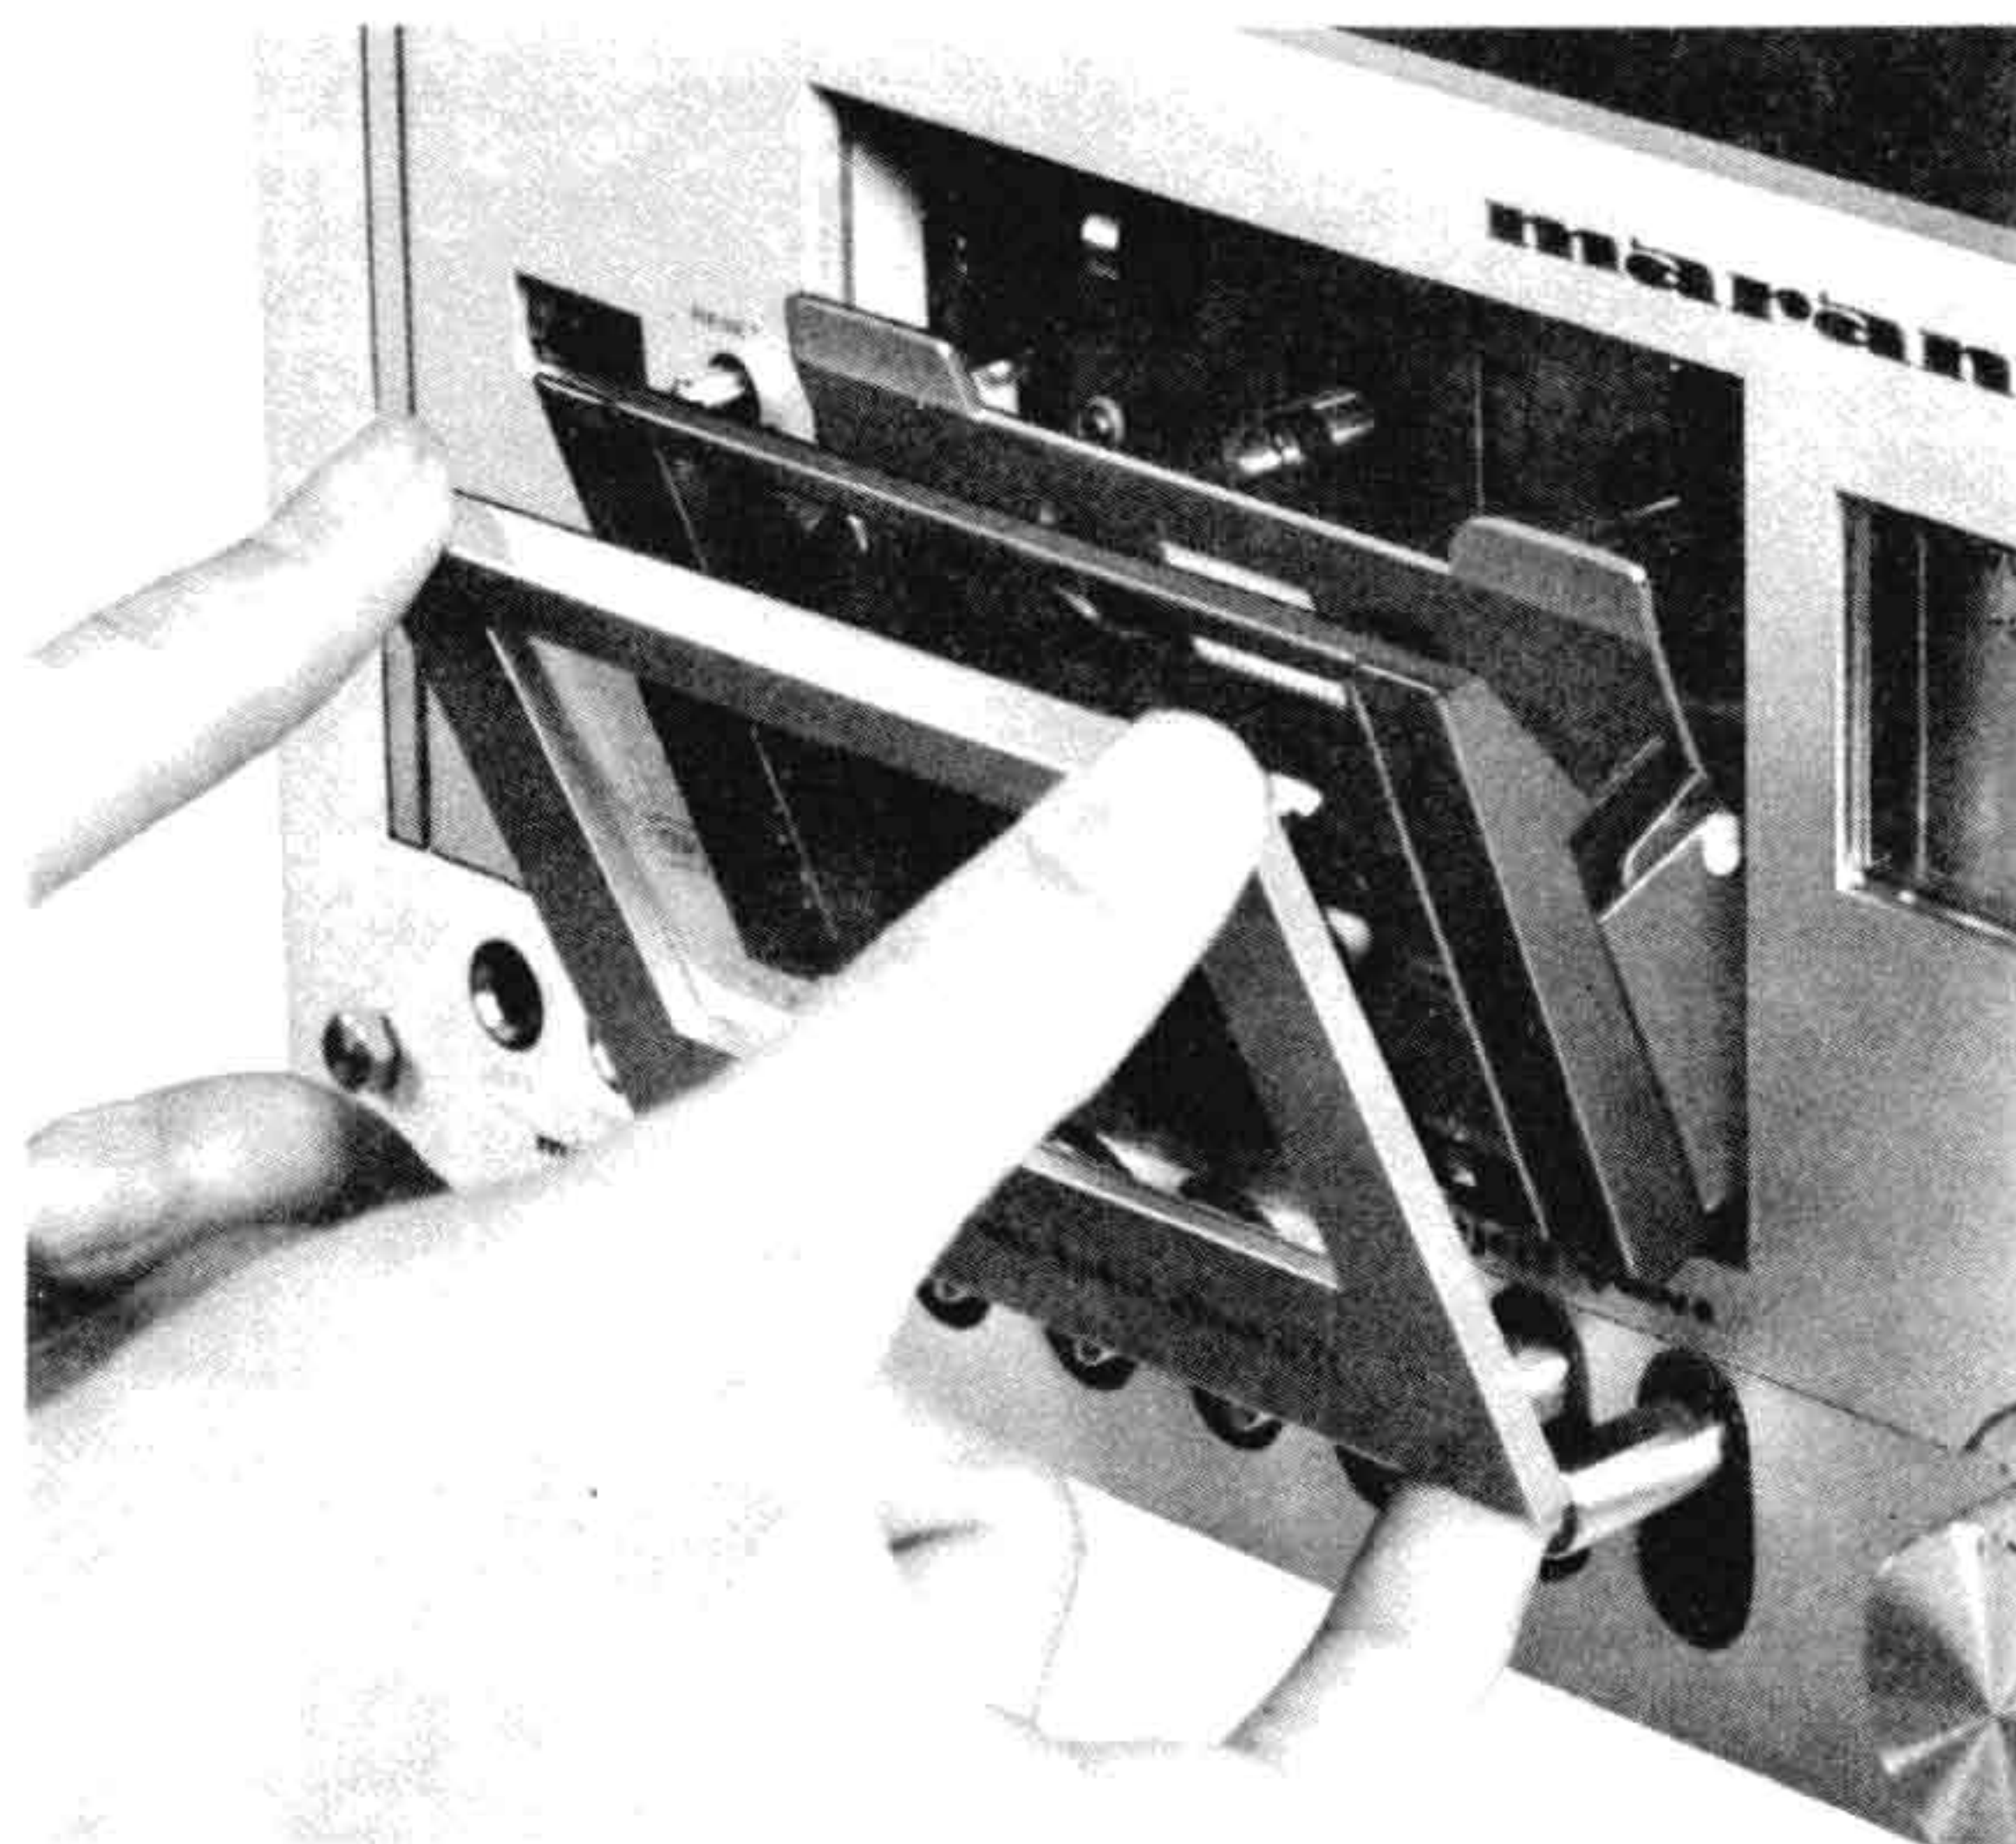

Figure 5. Removing the Lid
3. With the cassette holder still open, grasp the cassette lid by its four corners and gently lift up on the lid (see Figure 5). The lid will "snap" out. Then close the cassette compartment.